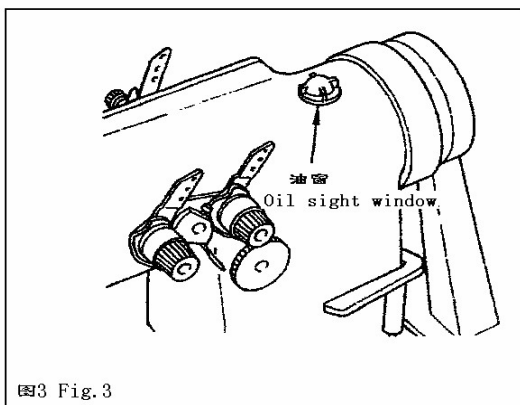

图3 Fig.3
2. Oiling shall be kept on until the oil surface has been brought above the mark "Low"(Fig.3)